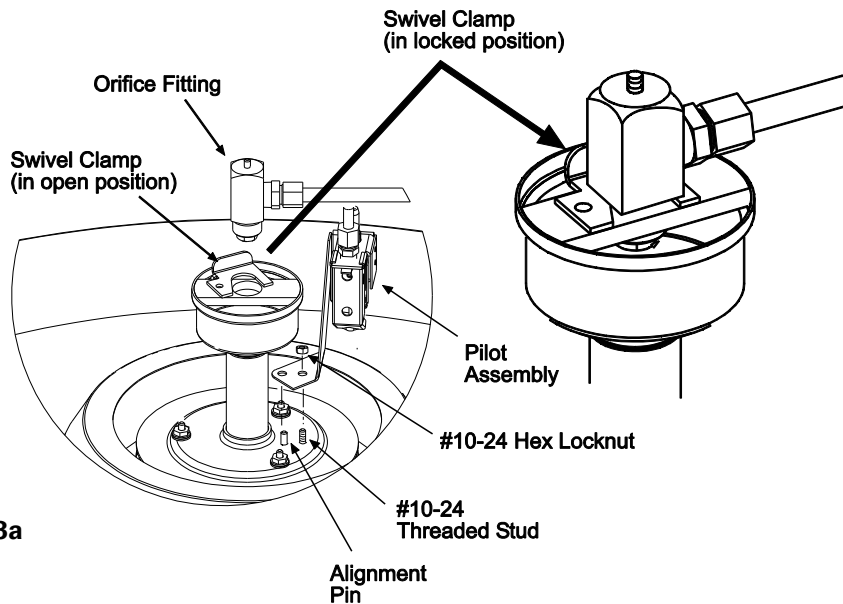

FIGURE 3a
9. Insert the Orifice Fitting into the burner base as shown in Figure 3a. Rotate the swivel clamp until it locks into the groove of the orifice fitting.